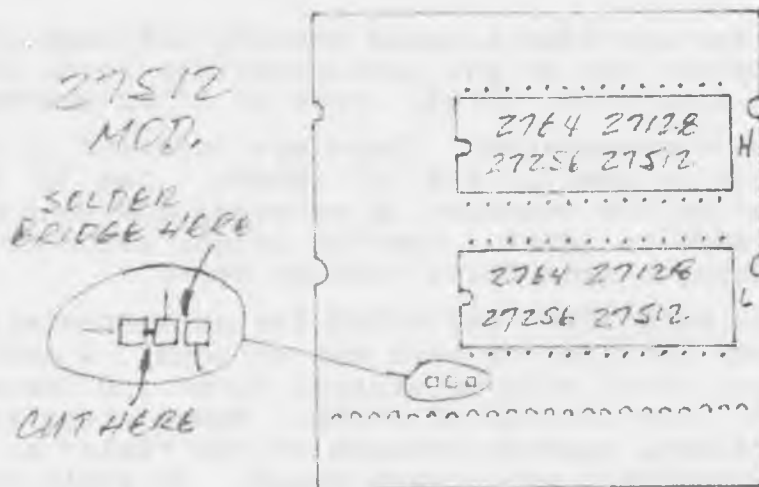

FIGURE 1
If the modification for the 27512 is made, described in FIG. 1 below, then the GAME line will be connected to PIN 1 of the EPROM. This is address bit A15 on the 27512. Clearing bit 4 of the MCR will set this pin low.
STEP 9- Plug your EPROM into the "L" socket of the PTM-2, orienting the notch as shown in FIGURE 1.